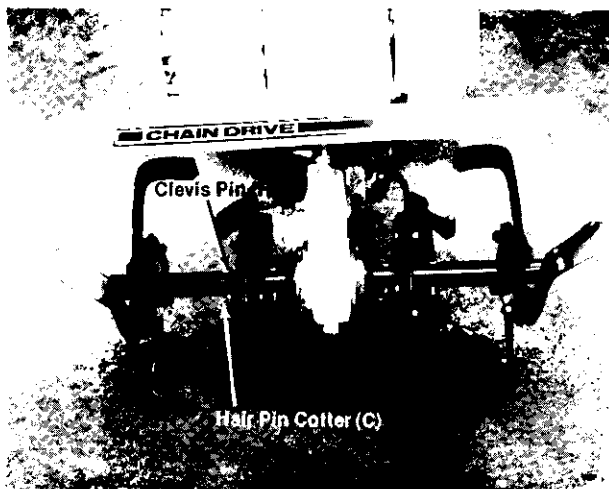

FIGURE 15.
Remove outer tines from the tine shaft and reinstall with the tine hub facing inward as illustrated in figure 15. Secure tines with clevis pins (H) and hair pin cotters (C).